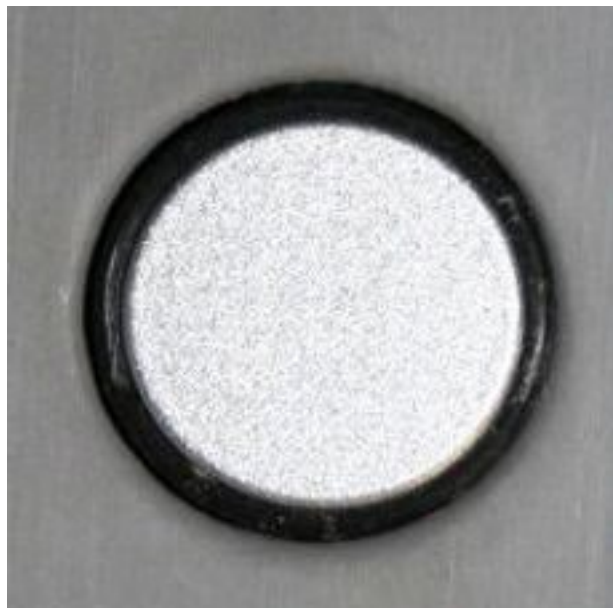

Figure 5. A correctly seated decoupling ring.
5. Check that the decoupling ring is correctly seated (Figures 5 - 7). If the ring is folded or bulging, remove the bumper and reinstall the sensor.